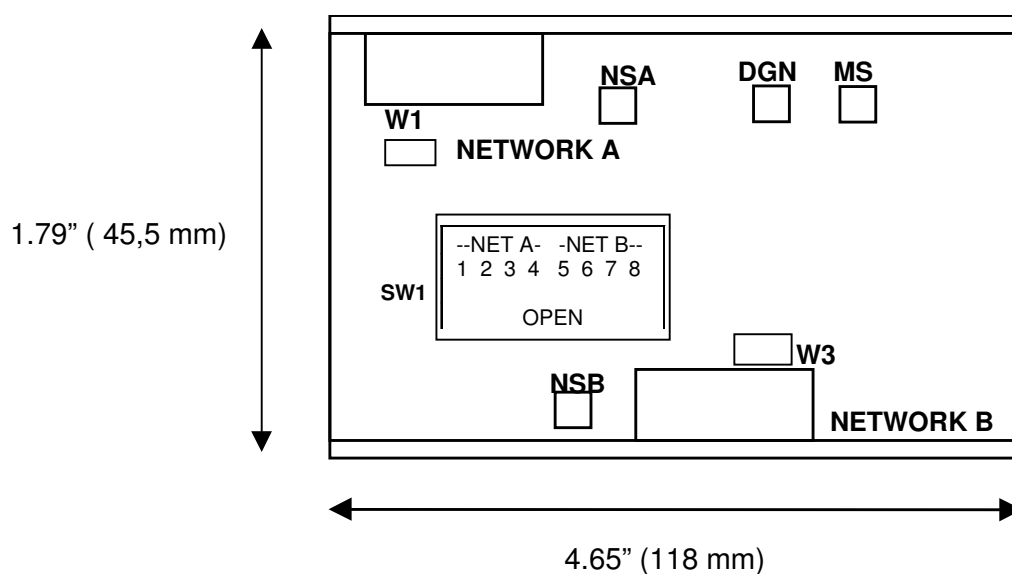

Figure 4-1 WRC-CANX-DIN Series 4 Dimensional Drawing
The WRC-CANX-XX Multiplexer has four (4) LED's that provide visual status information to the user about the product and the DeviceNet network. See Figure 4-1, Table 4-2, Table 4-3 and Table 4-4.